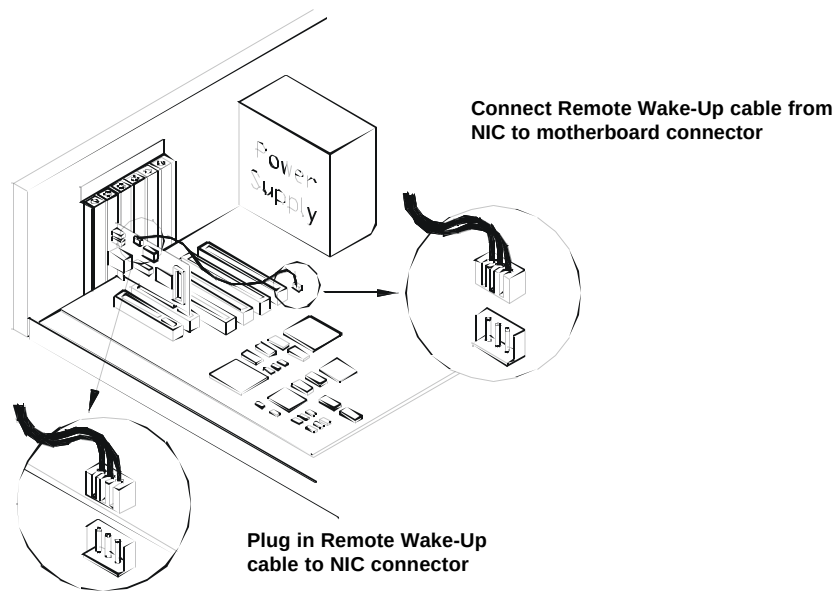

Figure 2-3: Connecting the NIC to the 3-pin connector
- 1. Insert the three-pin Remote Wake-Up cable into the NIC, shown in Figure : 2-3**
- 2. Attach the cable to the connector on the PC motherboard, as shown in Figure : 2-3**